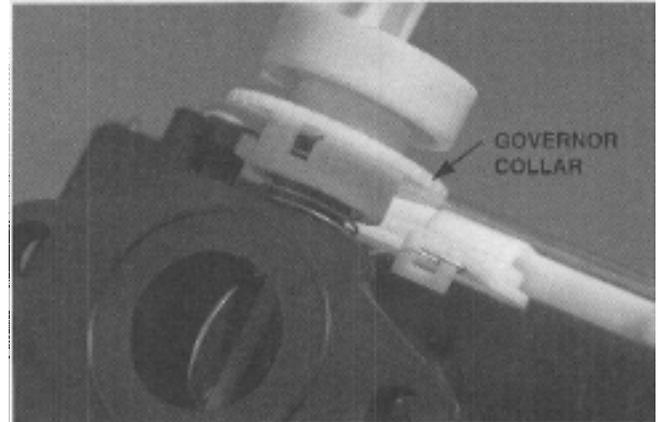

Figure 37
10. Holding the spring in the collar, hook the other end of the spring into the speed control arm. Place the collar and spring over the carburetor fitting. **(Figure 37)**
1. Turn the collar clockwise to increase spring tension (and engine RPMs) or counterclockwise to decrease spring tension and RPMs **(Figure 37)**. Preset the governor collar 3 or 4 clicks clockwise.